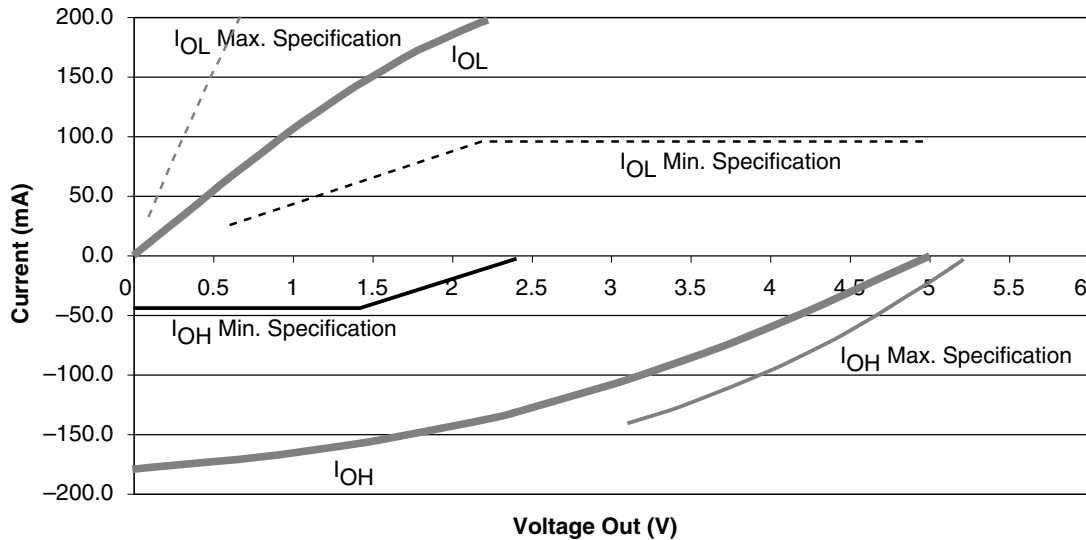

Figure 2-7 • 5V PCI V/I Curve for RTSX-S
1. Refer to the V_{IL} curves in Figure 2-7 on page 2-16. Switching current characteristics for REQ# and GNT# are permitted to be one half of that specified here; i.e., half size output drivers may be used on these signals. This specification does not apply to CLK and RST#, which are system outputs. The "Switching Current High" specification is not relevant to SERR#, INTA#, INTB#, INTC#, and INTD#, which are open drain outputs.
3. Maximum current requirements must be met as drivers pull beyond the last step voltage. Equations defining these maximums (A and B) are provided with the respective curves in Figure 2-7 on page 2-16. The equation defined maximum should be met by the design. In order to facilitate component testing, a maximum current test point is defined for each side of the output driver.